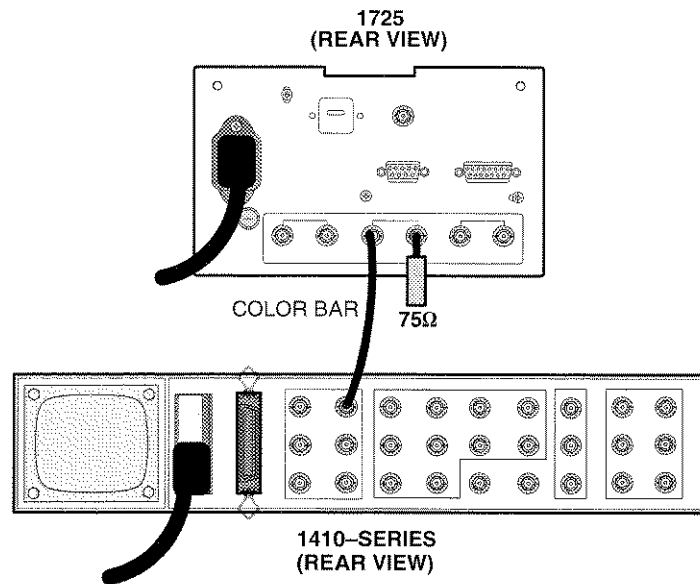

Figure 5-2: Initial equipment connections for performance checks
- b. Connect the NTSC Composite Color Bar signal with 100% Peak White Bar and 75% amplitude bars to the CH-B INPUT and terminate the opposite side of the loop through with a 75 Ω terminator. See Figure 5-2.